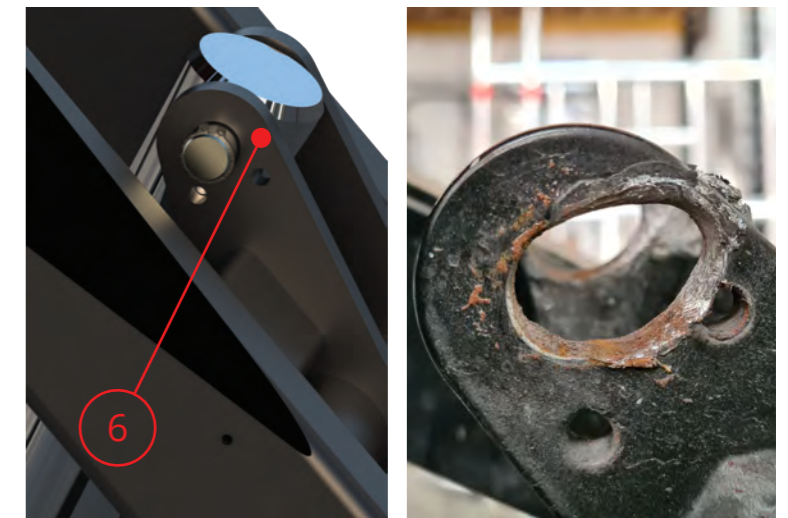

Fig. 1
3. Inspect around both area 1 & 2 looking for elongation or excessive wear of the pivot pin mounting holes in the scissor pack pivot plates. An extreme example of this type of wear can be seen in Fig.1